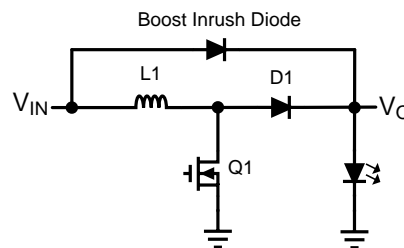

Figure 30. Boost Topology with Inrush Diode
- Add an inrush diode from V_{IN} to the output as shown in Figure 30.